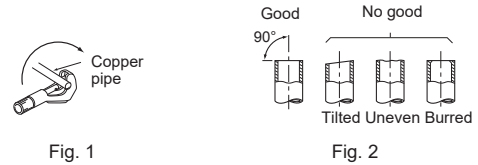

Fig. 1
- 3) Attach the conduit pipe to the conduit plate with the lock nut. The indoor/outdoor unit connecting wire (D) appearing from the inside of conduit pipe should be less than 7/8 in. (23 mm). (Fig. 1)
- 1) Cut the copper pipe correctly with pipe cutter. (Fig. 1, 2)